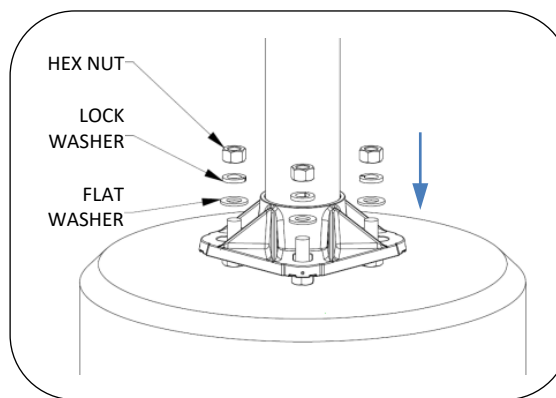

Fig. 2 – Install pole
1. Lift the light pole into position over the installed anchors (refer to Ashbery anchor kit installation guide) as shown in Fig. 2. Ensure that the base plate is resting on all four washers.
2. Install washer, lock washer and hex nut as shown in Fig. 2.